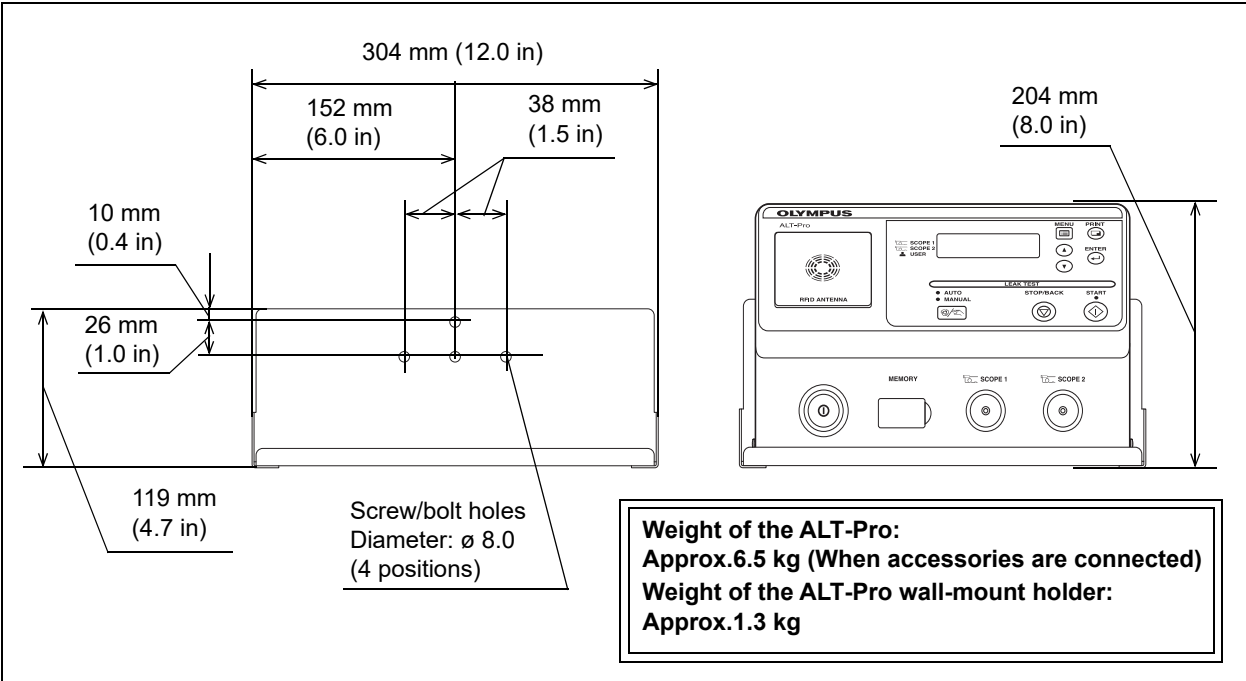

Figure 3.1
- The wall should be strong enough to hold the weight of the ALT-Pro wall-mount holder and this equipment. (See Figure 3.1, the dimensional drawing)
Referring to the drawings of Figure 3.1 showing the dimensions of the installation location of the ALT-Pro wall-mount holder, make sure the strength of the wall surface of the four installation positions. If the strength of the installation is insufficient, add some reinforcement. Otherwise, the ALT-Pro wall-mount holder may drop, breaking the wall or injuring the operator.
- 2** Referring to the drawings of Figure 3.1 showing the dimensions and weight of the ALT-Pro wall-mount holder, make sure the strength of the wall surface of the four installation positions. If the strength is insufficient, add reinforcement.
- 4** Hold the ALT-Pro wall-mount holder in the direction as shown in Figure 3.1, align the holder with the mounting holes, and secure it with screws or nuts. The screw or nuts to be used for installation should be commercially available and equivalent to “6 mm nominal diameter of nut or bolt,” which is suited to the material of the wall.